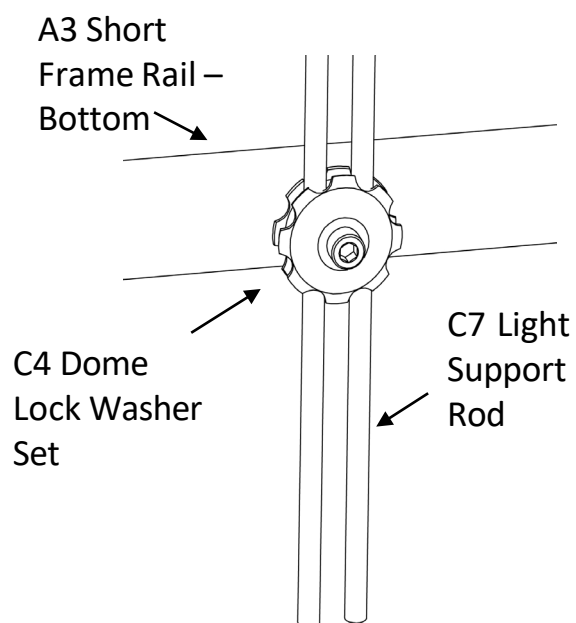

FIG. 5
9. Secure bottom lengths of **Light Support Rods (C7)** using **Dome Lock Washer Sets (C4)(x2)**, **M6 6x2.25" Cap Screws (B5)(x2)**, **M6 Lock-Nuts (B6)(x2)**, and center holes of **Short Frame Rails – Bottom (A3)**. See FIG.5.